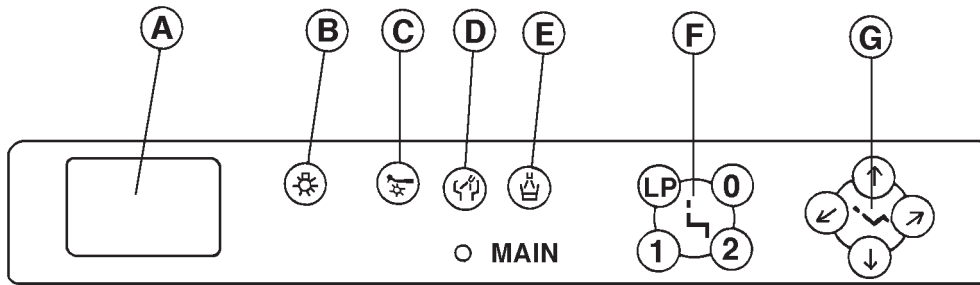

Fig.3-5 Doctor Table Main Control Panel
(1) Doctor Table Main Control Panel (Fig.3-5)